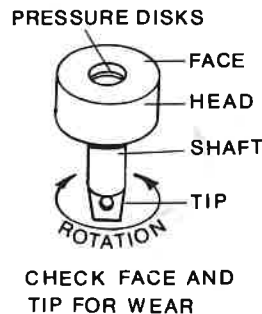

Fig. 19
22. Inspect valve shafts for wear or stiffness. (See Fig. 19).